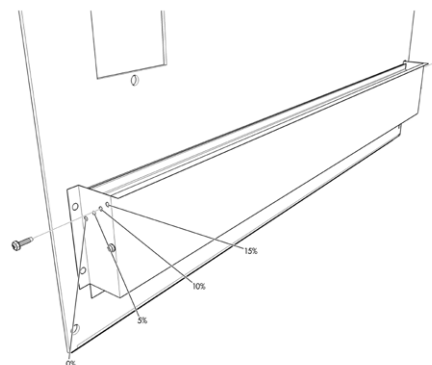

Figure 4. Fresh Air Hood Damper, EAH1024A-EAH1072A
3. Refer to Figure 4. Attach the bottom support bracket to the wall using appropriate 3/8" diameter hardware.